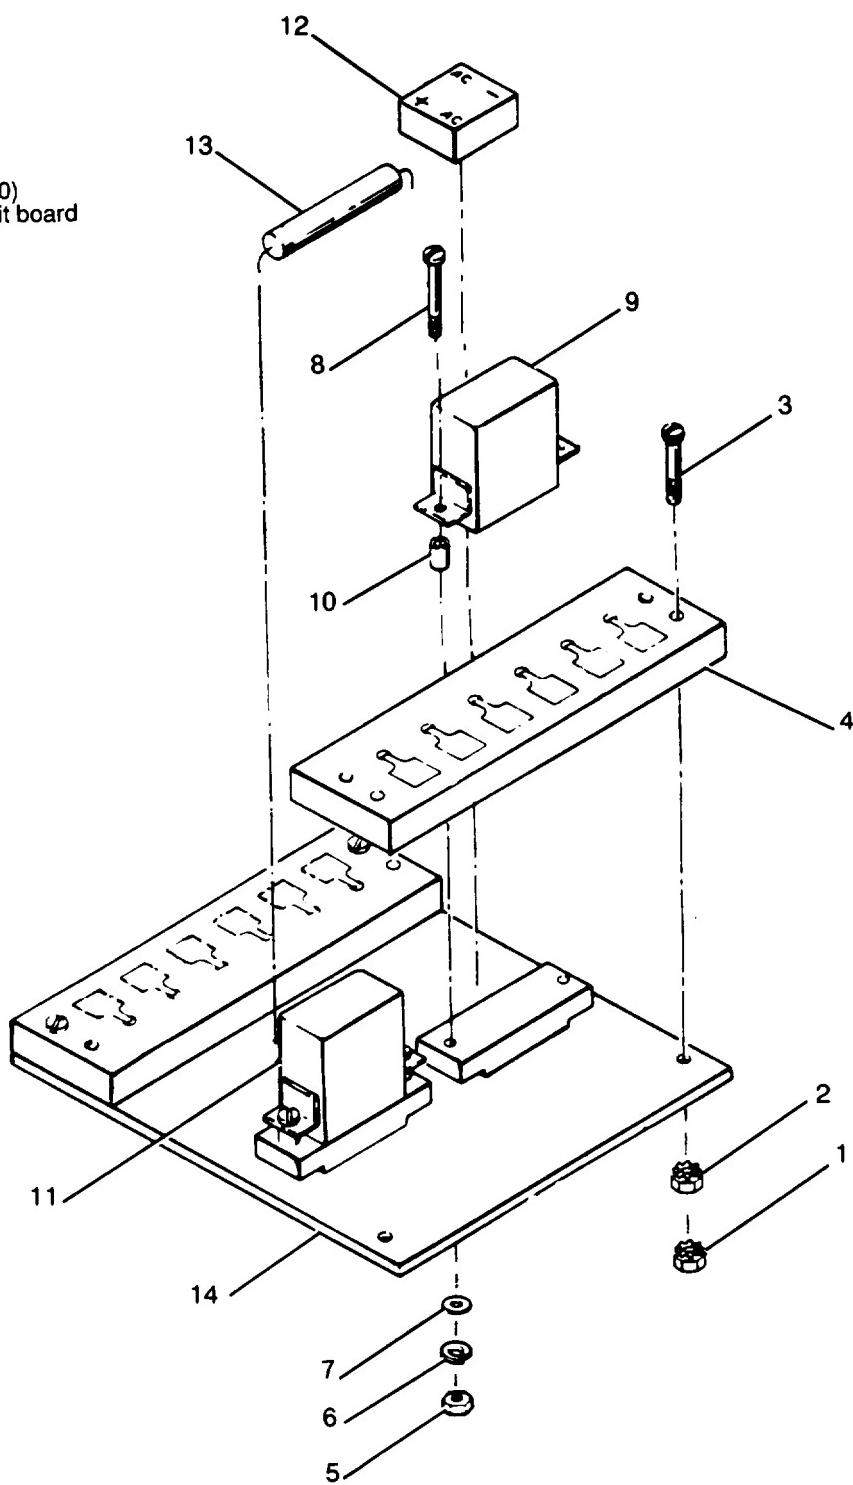

Figure 3-57. Control Cubicle Relay Assembly, Exploded View
- (c) Remove nut and captive washer assembly (1 and 2, figure 3-57), screw (3) and terminal board (4).
- (d) Remove nut (5), lockwasher (6), flatwasher (7), screw (8), relay (9) K6, and spacer.
- (e) Remove relay (11) K1.
- (h) Remove printed circuit board (14).
- (3) Cleaning, Inspection, and Repair.